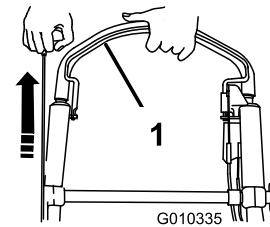

Figure 16
2. Hold the blade control bar against the handle and pull the recoil starter (Figure 16).